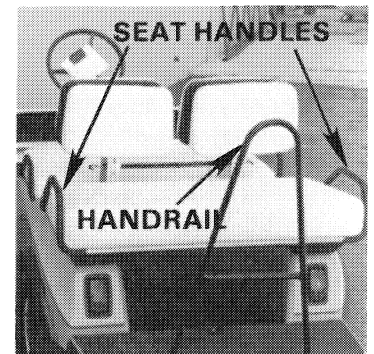

Figure 11
2. Be sure everyone is seated and holding on to seat handles or handrail (Figure 11).